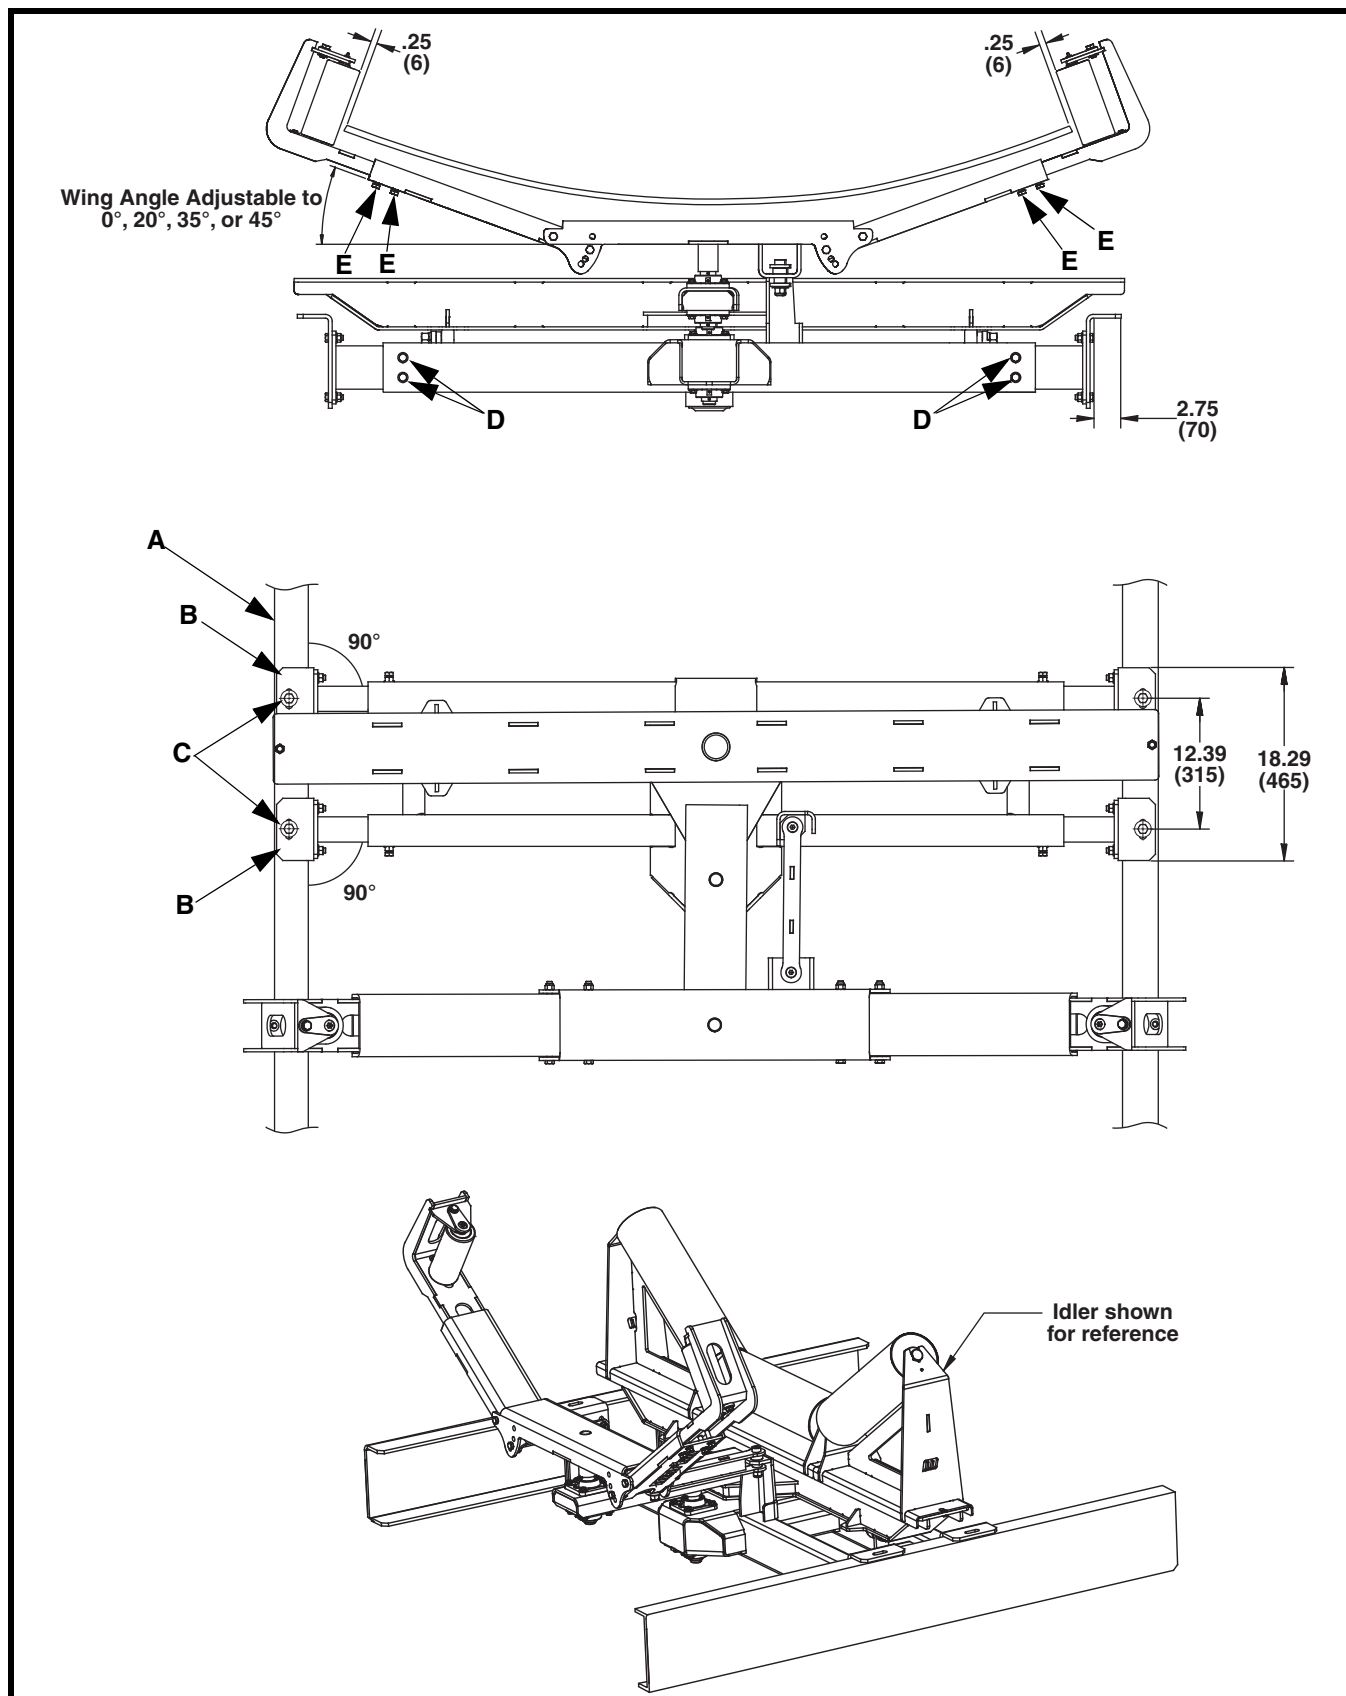

Figure 3. Mounting Dimensions–Martin® Tracker™ Monster (Upper Unit)
5. Mark location of support arms (B) on stringers (A). See Figure 3 for mounting dimensions.
7. Mount support arms (B) on farside stringer using cap screws, flat washers, compression washers, and nuts (C).
9. Slide operator side support arms into Martin® Tracker™ Reversing assembly and fasten to mounting brackets using cap screws, flat washers, compression washers, and nuts (C).
10. Center assembly on belt and tighten support arm set screws (D).
11. Position each sensing roll 1/4 inch from belt and tighten set screws (E).